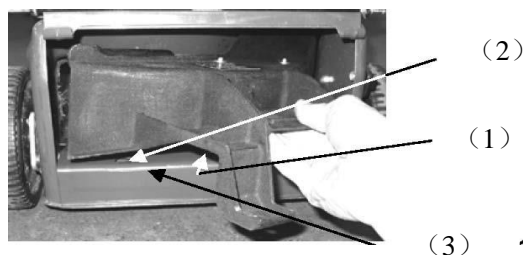

Figure 7. Mulch plug installation
- ★ Insert the long right hand side of the mulch plug first into the rear chute of the mower. Refer to figures 7 and 9.
- ★ Guide the mulch plug out by rotating the shorter left hand side to the right and then guiding the longer right hand section until clear of the mower. Refer to figures 7